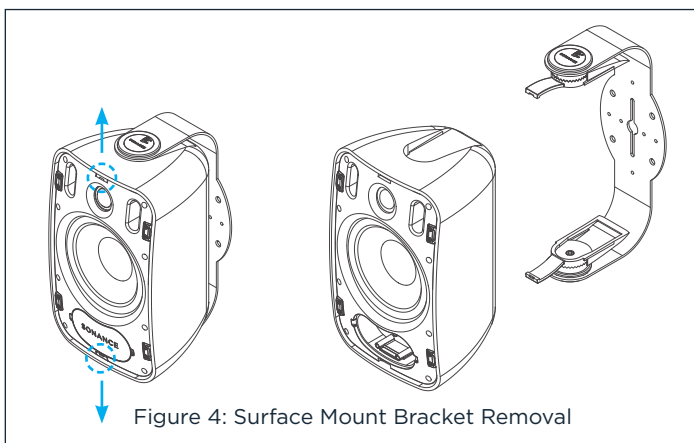

Figure 4: Surface Mount Bracket Removal
1. Remove the speakers from the mounting brackets by pulling the tabs on the front panels outward and away from each other (see Figure 4).